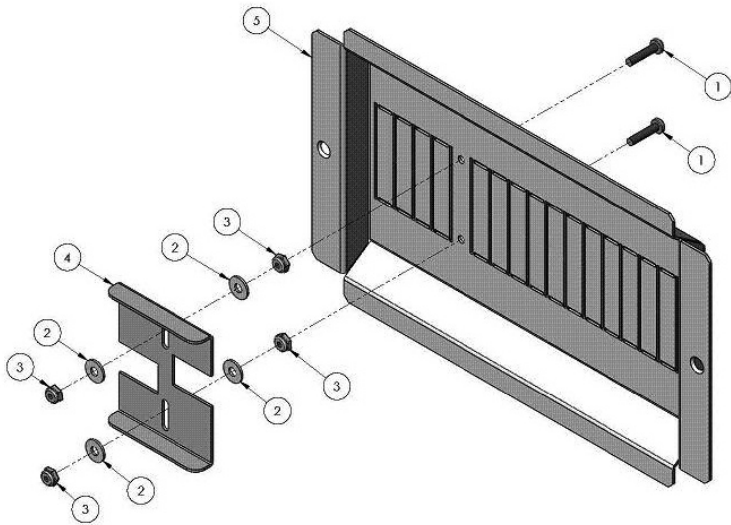

Figure 5: AC Breaker Bypass Slide Plate Installation
- Install the AC Breaker Bypass Slide Plate (see Figure 5).
- Install AC Breaker Bypass Slide Plate and fasteners as shown in Figure 5.